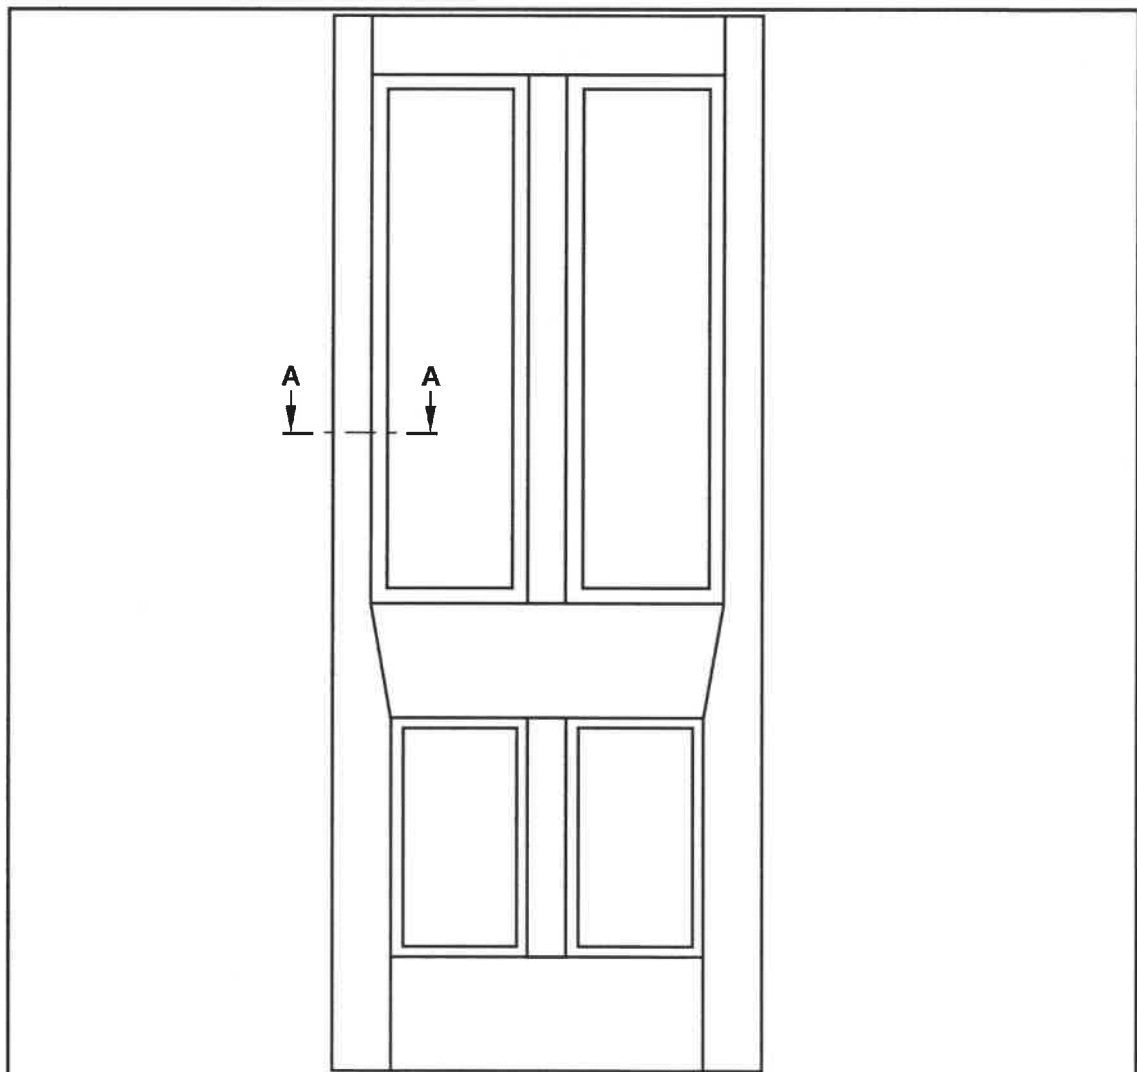

FIGURE 6.5
- 6.5 FIGURE 6.5 shows the front view of a four-panel door with a low lock rail, diminishing stiles and raised panels. Section line A–A is also indicated on the drawing.